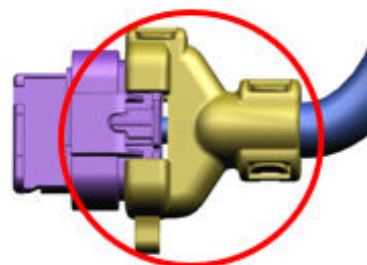

Fig. 1
3. Check to see if the connector to the wheel hub has a connector cover on both sides Fig. 1.